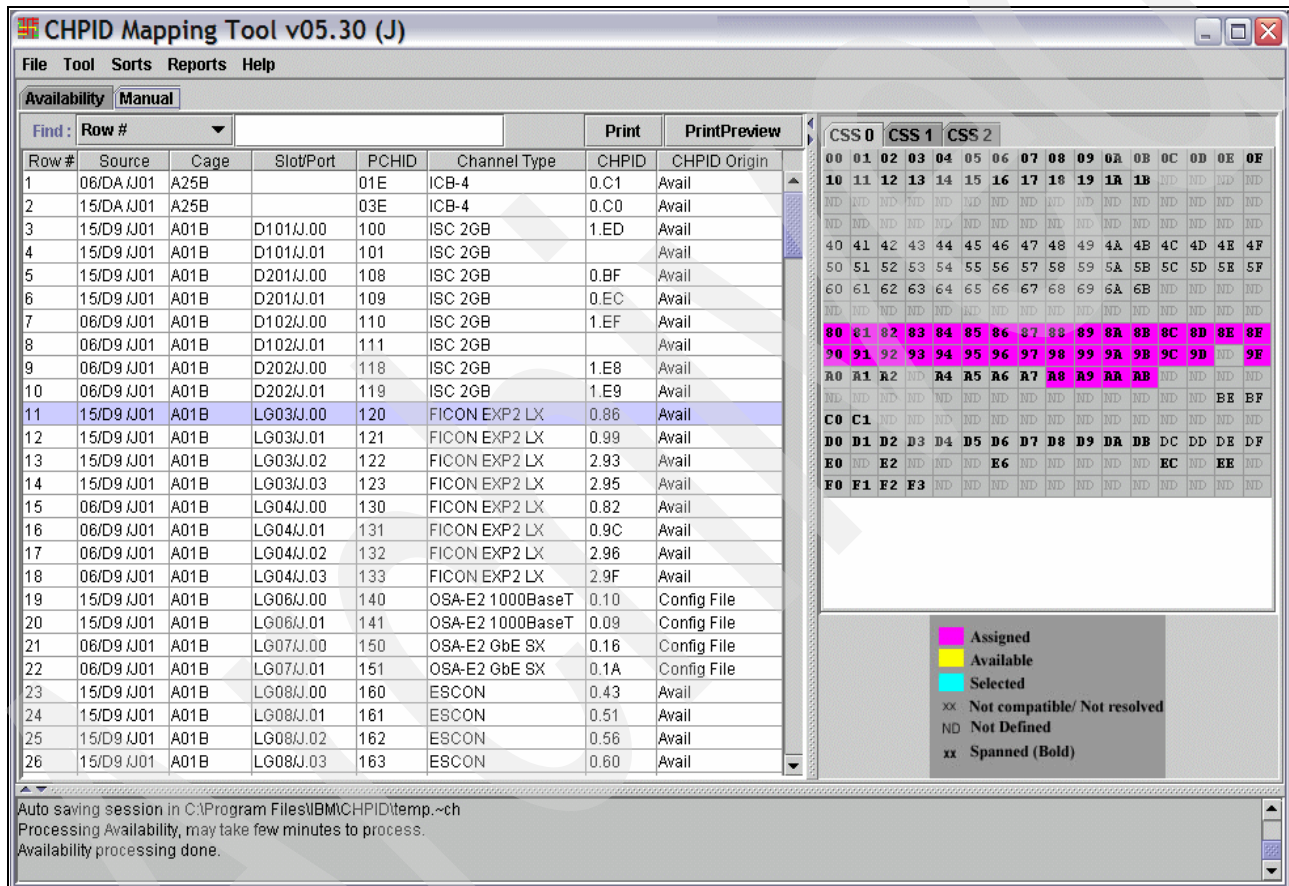

Figure 3-62 CMT - Manual (CHPIDs assigned)
- Select the **Manual** tab; Figure 3-62 shows the results of mapping the CHPIDs.